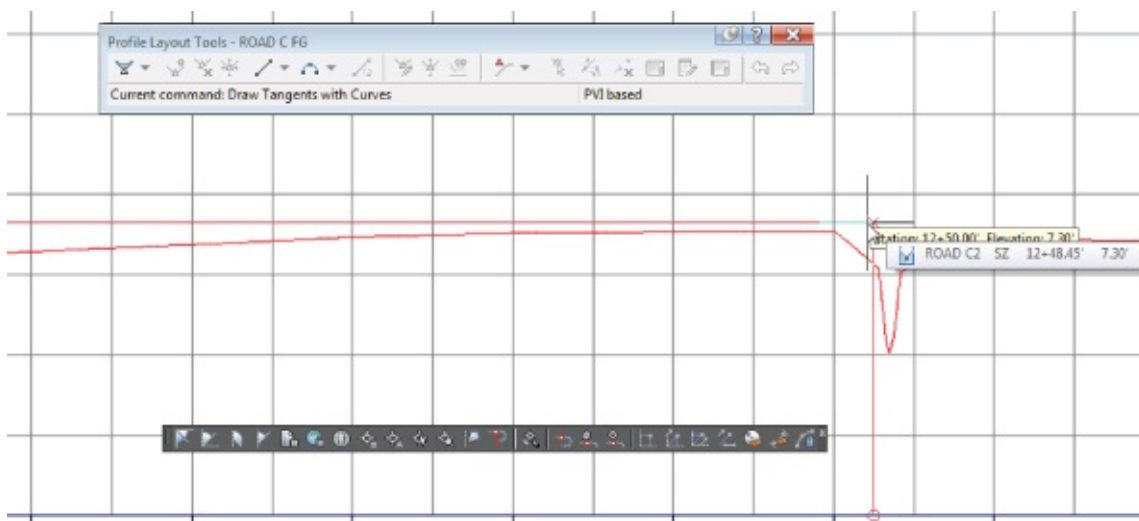

Figure 7.20 Using the Profile Station Elevation transparent command
11. When prompted for a station, enter **1250 ↵** (or **381 ↵** for metric users) at the command line. If you move your cursor within the profile grid area, a horizontal line appears (see Figure 7.20), but it can move only vertically along the station just specified.